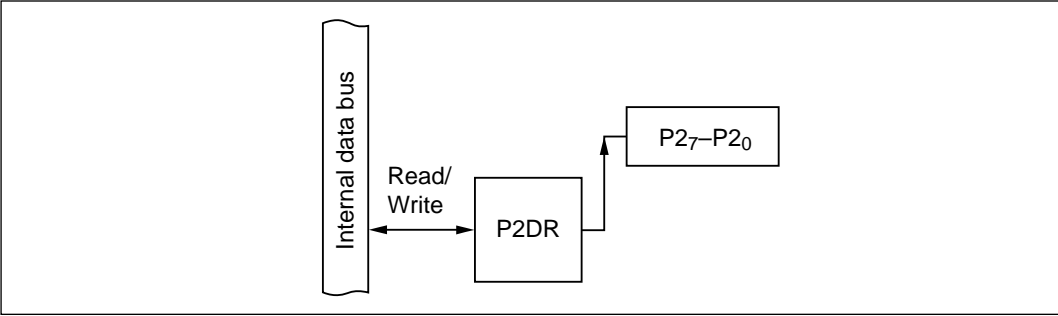

Figure 10-14 Output Port (Modes 2 and 7)
(3) Output Port (Modes 2 and 7): Figure 10-14 shows a block diagram illustrating the general-purpose output function. Table 10-10 indicates register read/write data. The value written in the port 2 data register (P2DR) is output at the pin. When read, P2DR returns the value written in P2DR.